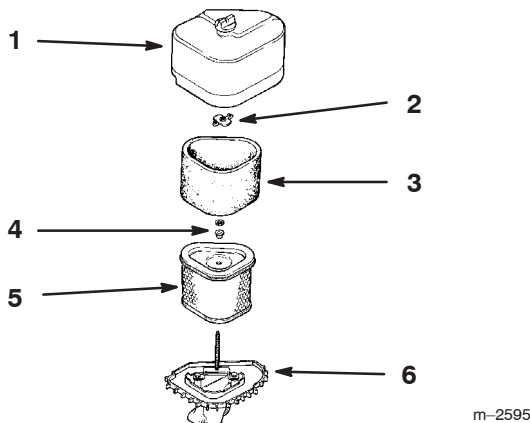

Figure 16
2. Clean around the air cleaner to prevent dirt from getting into the engine and causing damage. Unscrew the cover nut and remove the air cleaner cover (Fig. 16).
3. Remove the air cleaner assembly (Fig. 16).
4. Carefully slide the foam element off the paper element (Fig. 16).
1. Carefully slide the foam element onto the paper air cleaner element (Fig. 16).
2. Place the air cleaner assembly onto the air cleaner base (Fig. 16).
3. Install the air cleaner cover and secure with cover nuts (Fig. 16).